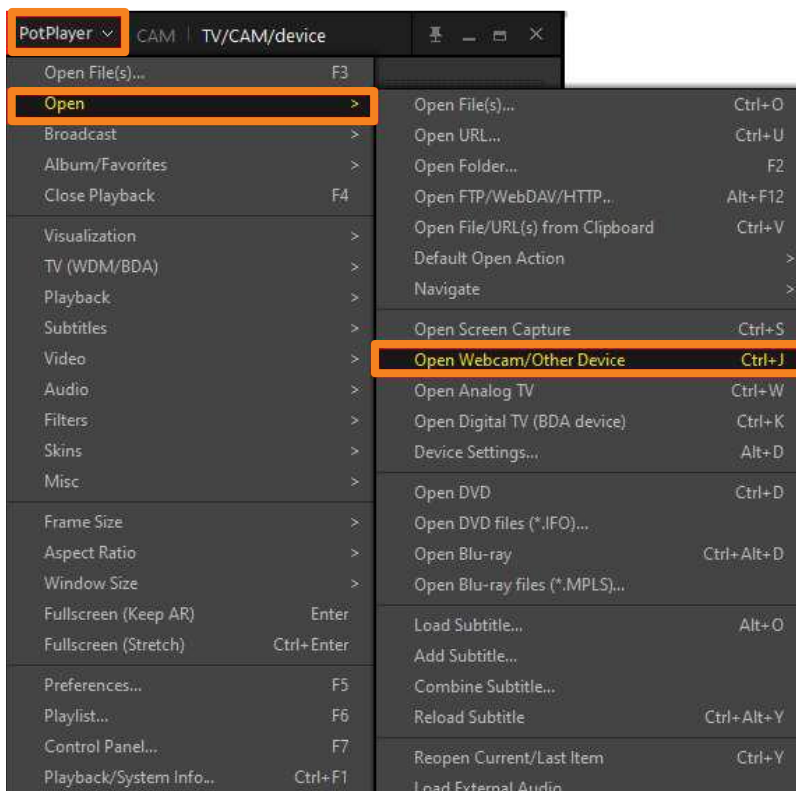

Figure 9.3. Open Webcam/Other Device in PotPlayer
2. To open video, either hit shortcut Ctrl+J or Click **PotPlayer > Open > Open Webcam/Other Device**, as shown in Figure 9.3.